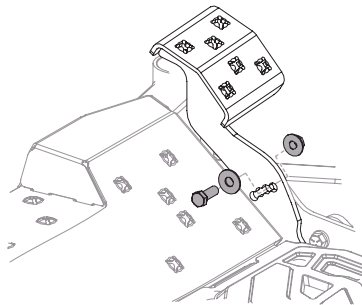

Figure 41
2. Remove the hex bolt, washer and hex nut near the center of the pedal assembly. See Figure 41.
4. Reinstall the hardware previously removed and torque the nut to 28-35 ft-lbs (38-47 N-m). See Figure 41.